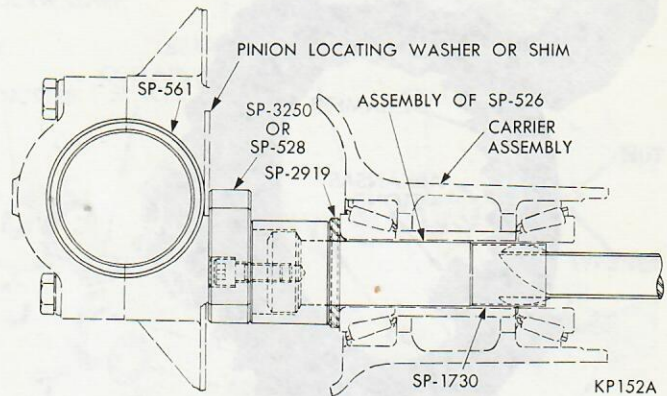

Fig. 26 Pinion Preload with Spacer (8-3/4 in. Ring Gear)
(1) With tool installed in carrier, remove main screw nut, centralizing washer, compression sleeve and front pinion bearing cone.
(2) Install the pinion bearing spacer, larger bore of spacer next to rear bearing.
(3) Position sleeve (SP-1730) in front bearing cone making sure sleeve is flush with rear of bearing.
(4) Position original shims, previously removed from drive pinion stem, over the sleeve and slide the sleeve, bearing and shims over main screw of tool until shims rest against spacer (Fig. 26).
(5) Install tool compression sleeve (SP-535) (square end out), centralizing washer (SP-534) and main screw nut (SP-533). Turn carrier in stand to bring nut on top.
(6) Tighten tool nut to 240 foot-pounds with a torque wrench, using holding Tool C-3281 on the compression sleeve to hold the assembly in several positions to make a complete revolution while tightening. Remove holding tool and rotate the pinion several revolutions in both directions to seat the bearing rollers. Recheck torque to 240 foot-pounds (torque may have diminished as bearing rollers were seated by rotating). **Correct bearing preload reading can only be obtained with nose of carrier up.**
(7) Using inch-pound torque wrench C-685, measure pinion bearing preload by rotating pinion with handle of wrench floating, read the torque while wrench is moving through several complete revolutions. Correct preload setting is 20-30 inch-pounds for a new bearing and 0-15 inch-pounds